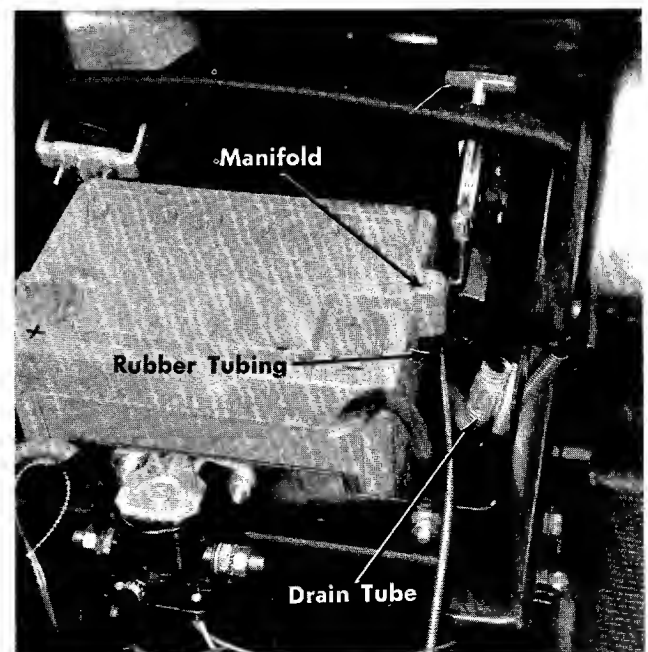

FIGURE 4.
2. Place the battery in the battery case with the terminal to the front. See figure 4.
4. Push the rubber tubing into the manifold of the battery and place the other end into the drain tube. See figures 4 and 5.